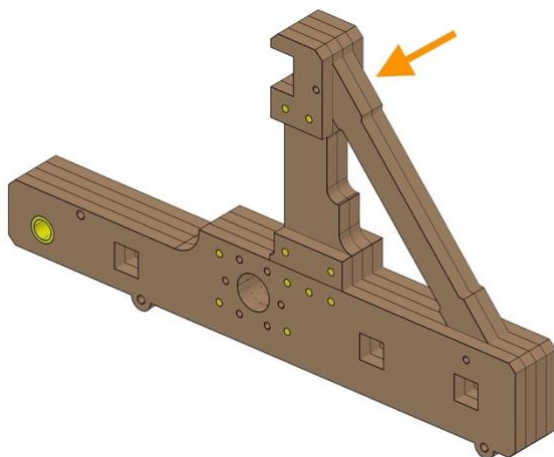

Fig. 15
- Fig. 15 shows where to push down.